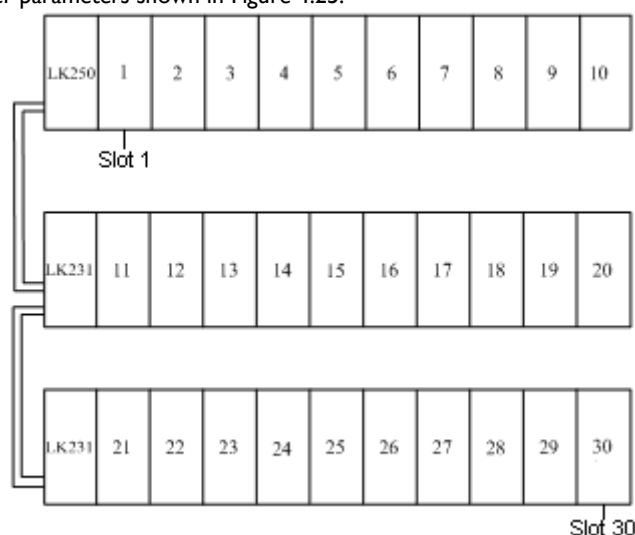

Figure 4.24: LK250 slave station slot number
- There are following rules for slot numbers: The first I/O slot on the expansion backplane where the LK250 module resides is defined as slot 1, and the slot number is incremented from left to right and from top to bottom, up to at most 30. This is illustrated in Figure 4.24. These slots correspond to Slot1 (first slot) to Slot30 (the 30th slot) in the user parameters shown in Figure 4.25.